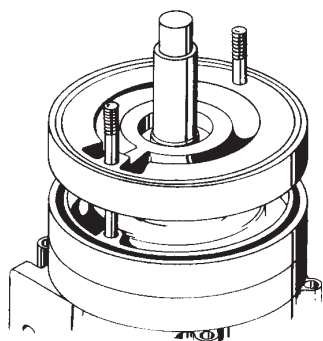

Figure 4-11
14. Slide another left hand channel ring (#10) into place with the water channel facing up.(refer to figure 4-11) This time, however, place the large inlet opening in the "five o'clock" position. By locating successive stages 180 degrees from the last, hydraulic loads are radially balanced.